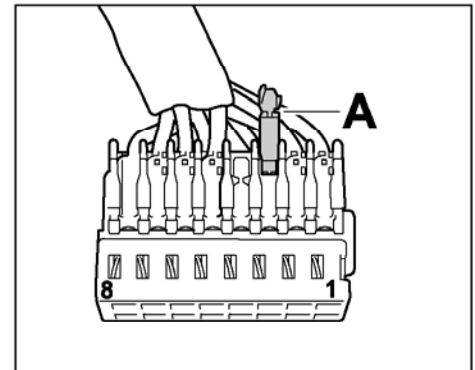

Figure 6
- 3.4.1 Remove cutting crimp ⇒ *Figure 6 -A-* from **chamber 3**.
- 3.4.2 Crimp cutting crimp ⇒ *Figure 6 -A-* at one end of the additional electric line 0.352.